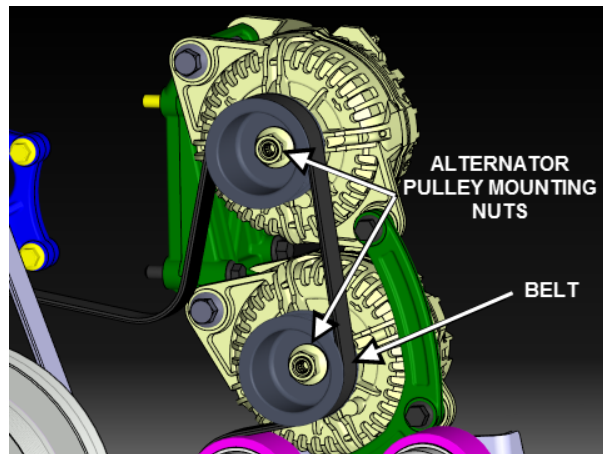

FIGURE 38
1. Unscrew the alternator pulley mounting nut (FIGURE 38).